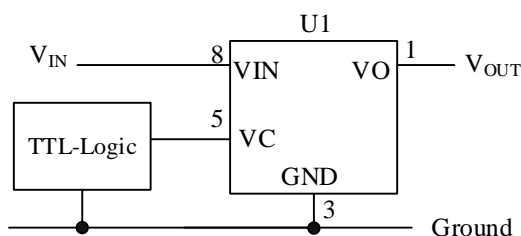
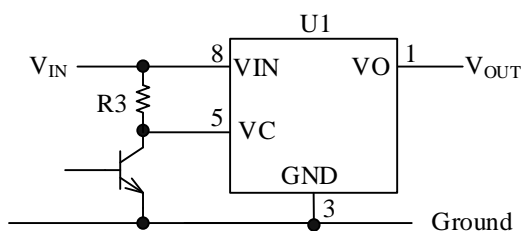

Figure 12-2. Output On/Off Function
Figure 12-3. Output On/Off Function
As shown in Figure 12-2 and Figure 12-3, the on/off signal is generated by a general-purpose logic IC or a transistor, and inputs to the VC pin. When the general-purpose logic IC is used, pull-up resistor, R3, is unnecessary.
In the case of Figure 12-3, the R3 value should satisfy Equation (4) that the maximum sink current of the VC pin is taken into account. The minimum value of R3 should be set taking into account the loss of the transistor.